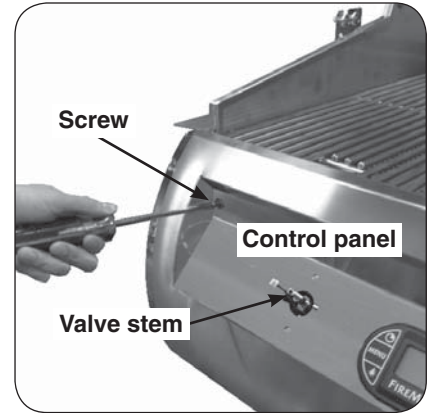

Fig. 4-1 Remove the control panel
3. With the burner valves in the OFF position, pull the valve knobs from their stems. Use a Phillips screwdriver to remove the fastener screws on the control panel (see Fig. 4-1). To protect the wiring harness, carefully lift the control panel slightly up then away from the frame and let it rest on the attached chain (if equipped). Make sure to retain the screws and finish washers for re-attaching the control panel.